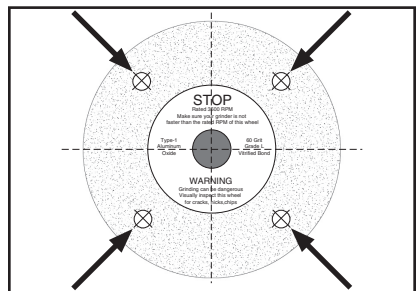

Figure 4. Tapping locations when performing a ring test.
3. At the spots shown in **Figure 4**, gently tap the wheel with a light non-metallic device such as the handle of a screwdriver or a wooden mallet.